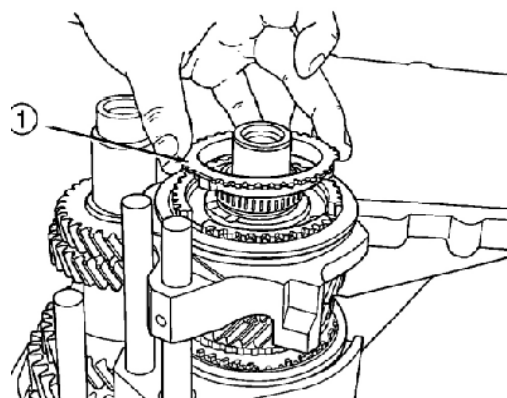

Figure 3-63 Assembly of reverse brake lock ring
(4) Assemble the reverse brake lock ring (Figure 3-63).